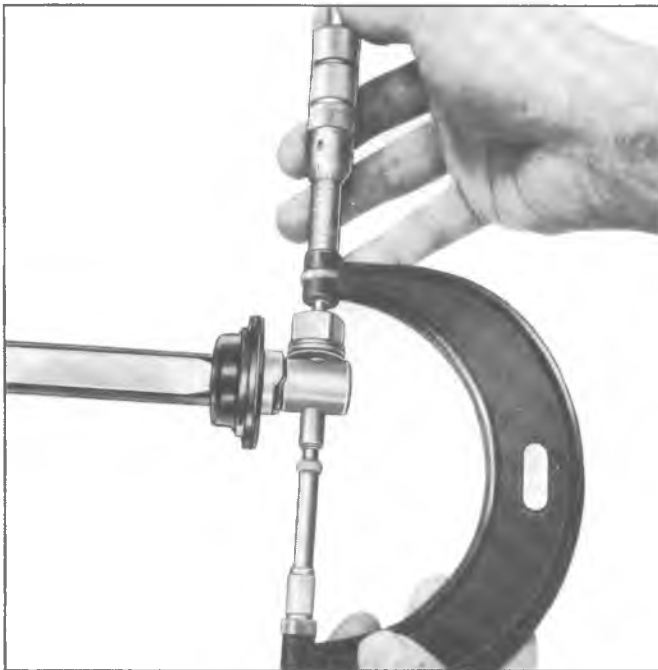

Fig. 11—Checking Coupling Pin Centering
3. Check centering of pin (fig. 11).